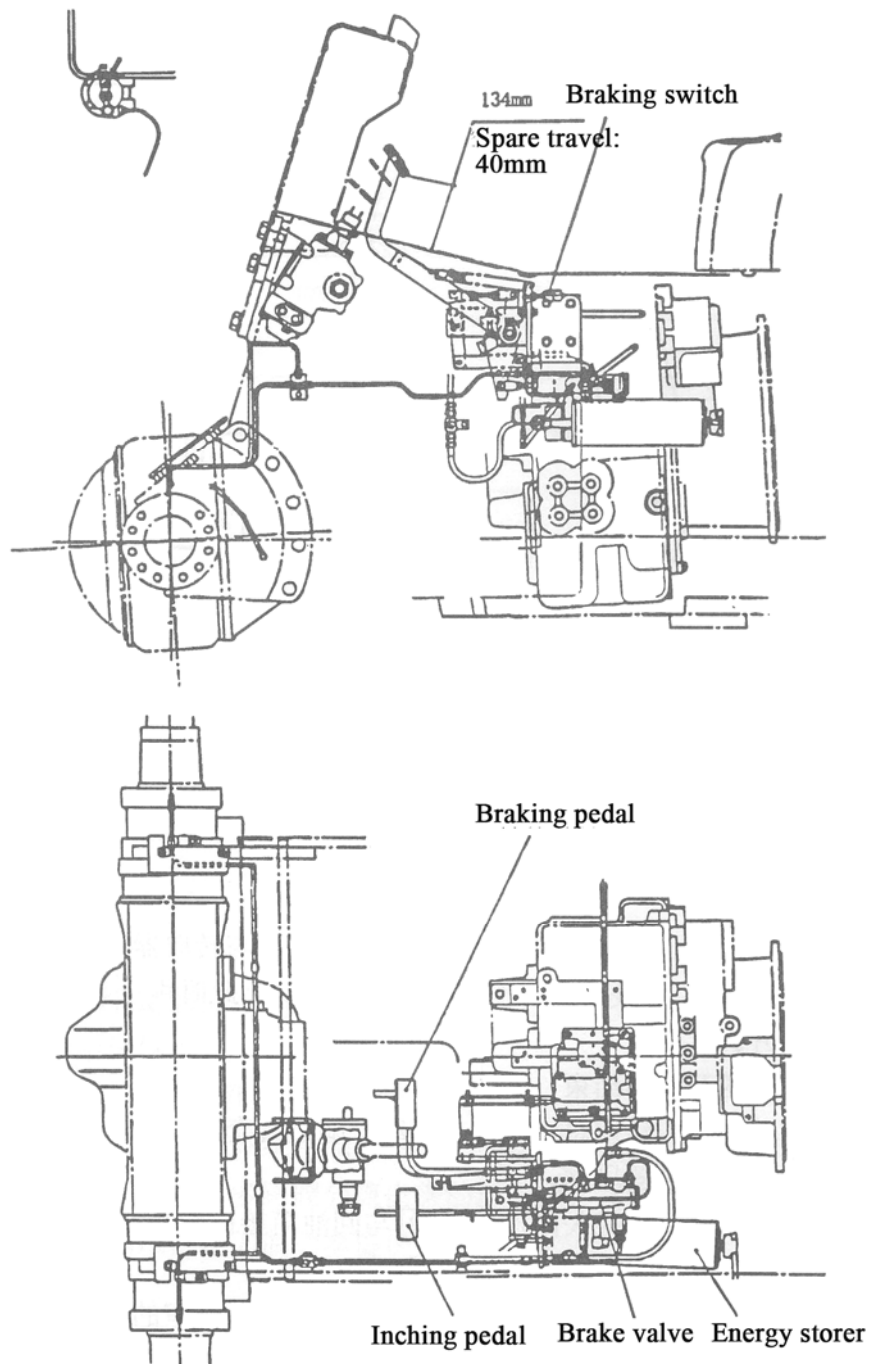

Fig 5.2 Braking Pedal Device
5.2.1 Braking pedal device (see Fig 5.2) braking pedal and inching pedal are mounted on the left side of frame by bracket. The inching pedal in the left and the braking pedal in the right have linkage function. After the inching travel, the inching pedal drives the brake valve to brake. The brake pedal directly drives brake valve.